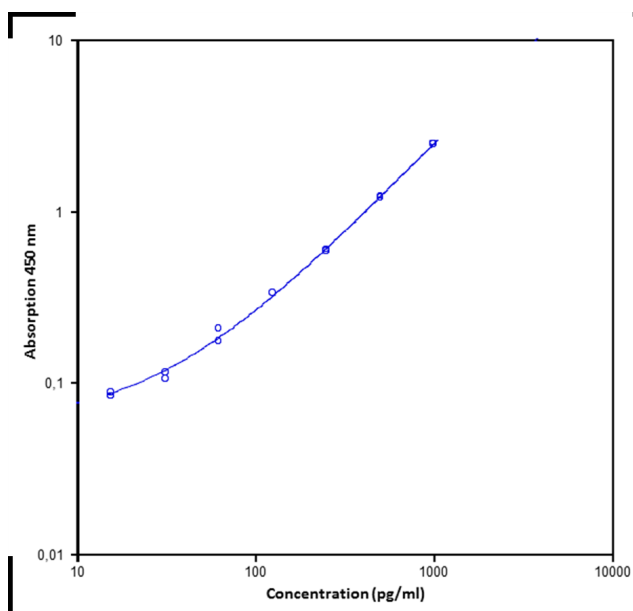

Fig. 8 Representative standard curve for Human IL-29 ELISA Kit. Human IL-29 was diluted in serial 2-fold steps in Sample Diluent.
- A representative standard curve is shown in Figure 8.